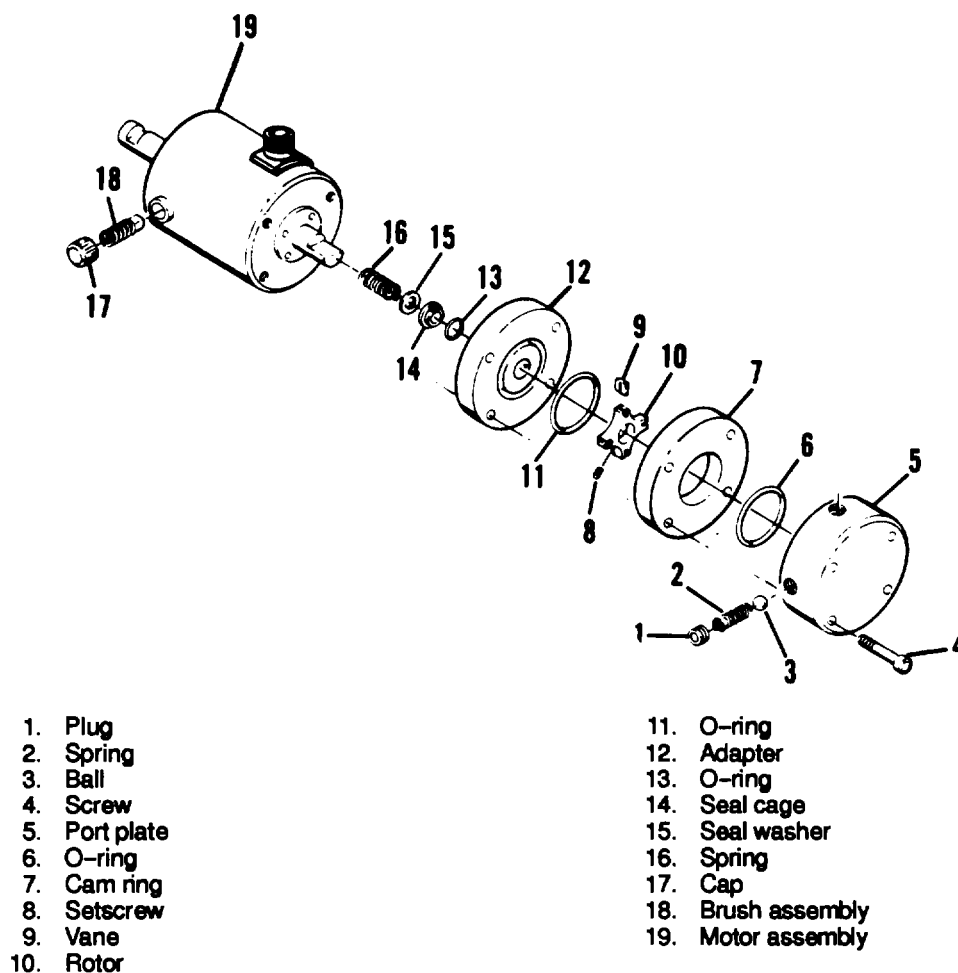

Figure 5-10. Coolant Pump and Motor Assembly, Exploded View
- (1) Remove plug (1, figure 5-10), spring (2), and ball (3).
- (2) Remove screws (4), port plate (5), O-ring (6), and cam ring (7).